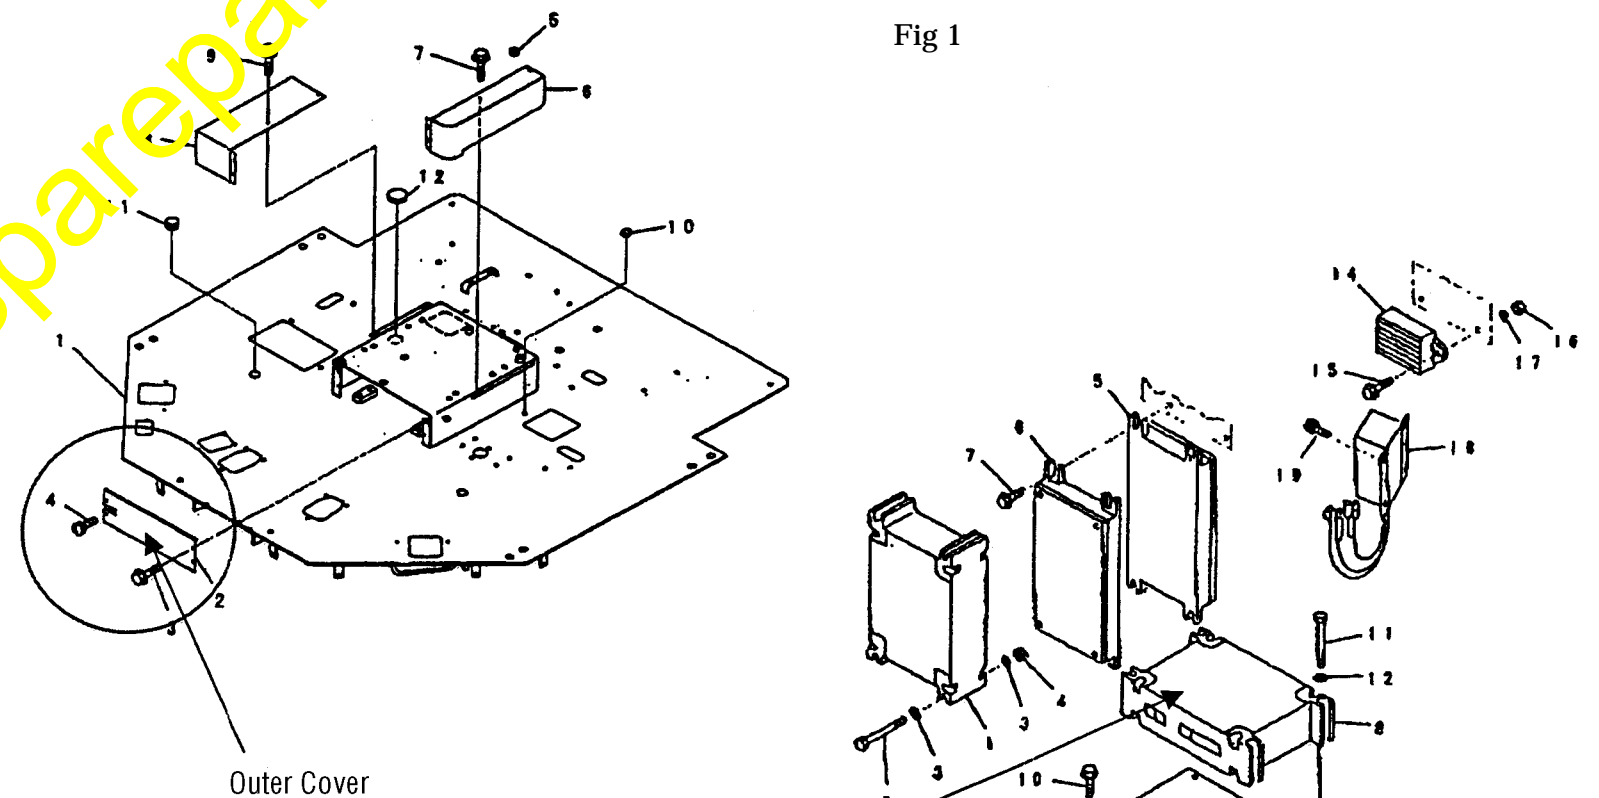

Fig 2
###### ① Remove the outer cover. (See Fig 2)